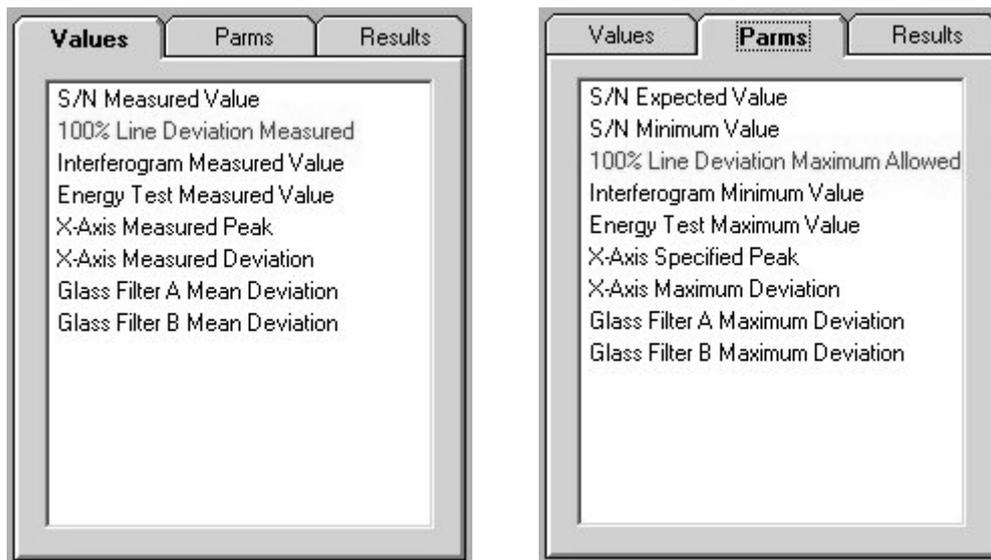

Figure 341: OVP - Values and Params tab with tests specified
Select the instrument configuration from the *Configuration* drop-down list (A), and the test results to be shown from the *Test Results Table* drop-down list (B). Check the corresponding test category option (C). The *Values* tab (see figure 341) lists all individual tests specified for the test category. If you click on any of the tests, the test will be marked red and shown in the chart on the right side.